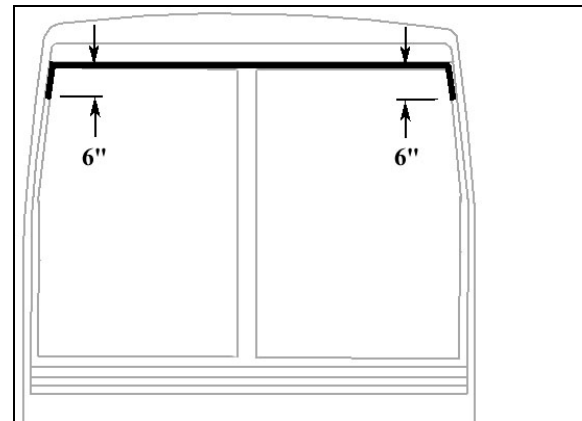

FIGURE 59: APPLICATION OF SIKA 221 BLACK
8. Apply Sika 221 black (Figure 59) between fiberglass and rubber extrusion.